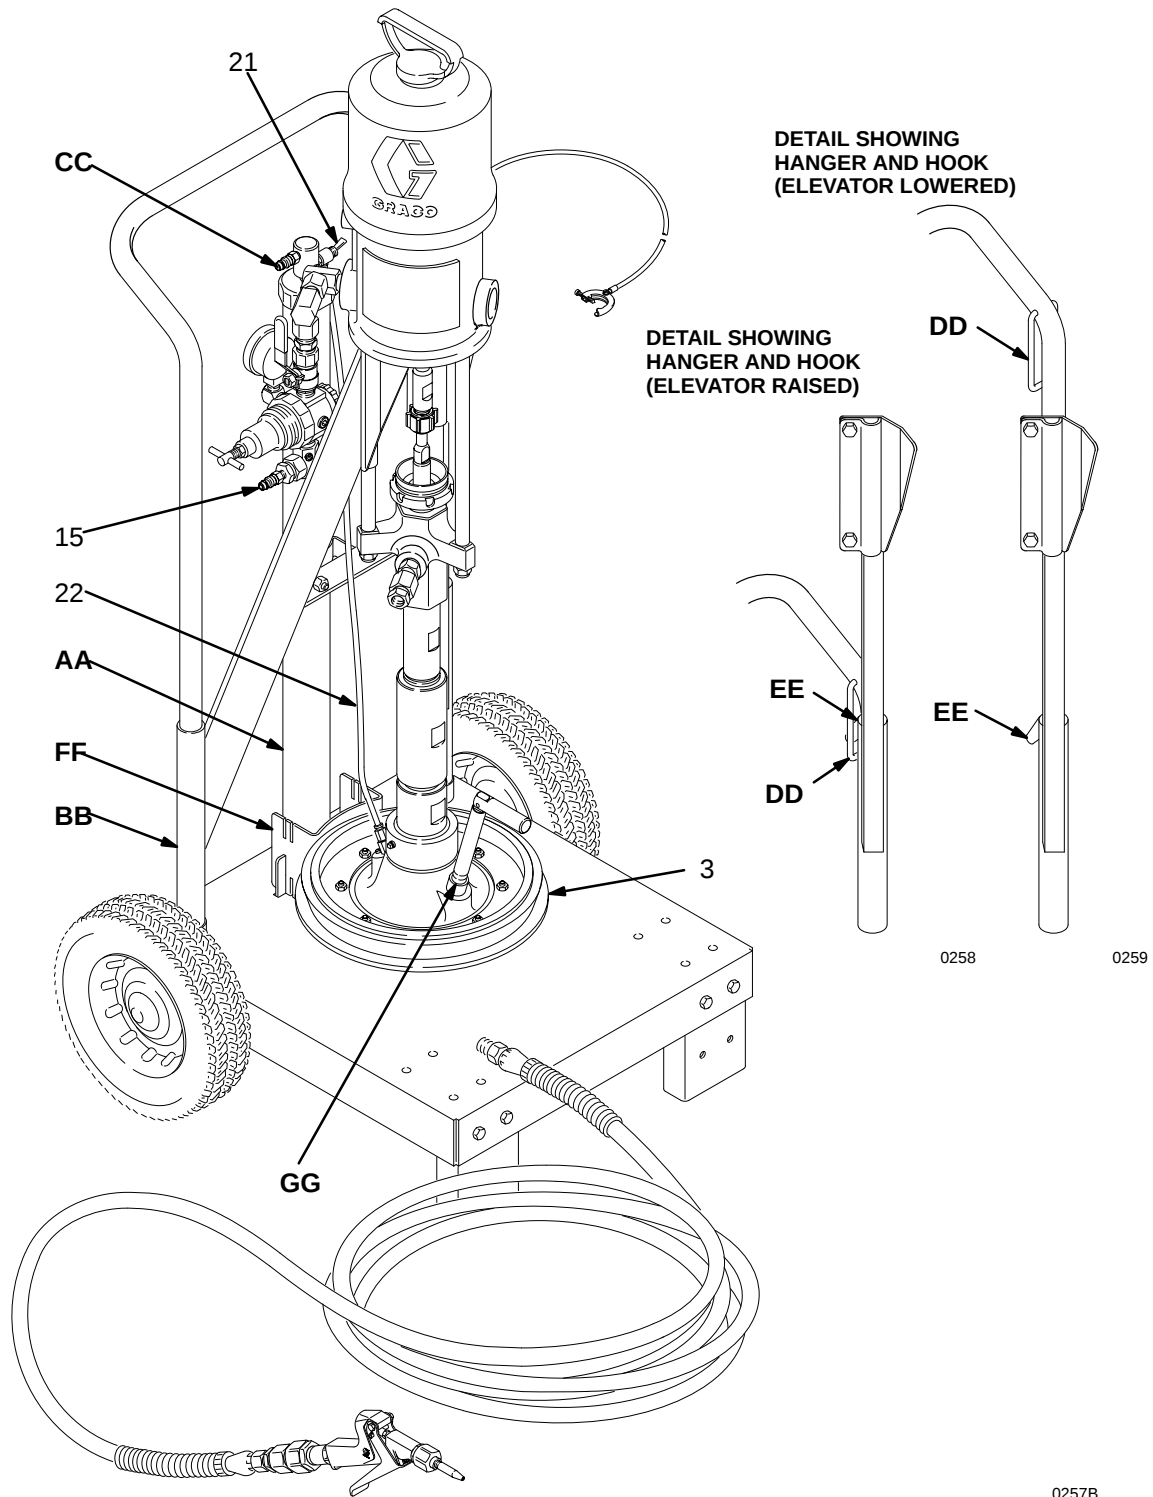

Fig. 3
The elevator tube (AA) and from slides (BB) move up and down when the elevator is in operation, and can pinch fingers or hands caught between them and the cart frame. Keep your hands away from the elevator tube, from slides, and the frame of the cart when the elevator is in operation. See Fig. 3.
1. Disconnect the female quick coupler from the pump air inlet fitting (15) and connect it to the air inlet fitting (CC) on the elevator. Turn on the main air. See Fig. 3.
2. Raise the elevator to its maximum height, so the hanger (DD) on the cart handle is below the hook (EE) on the elevator frame.
3. Place a 19 liter (5 gallon) pail of fluid on the base of the cart. Slide the pail back against the pail stop (FF). The pail stop is adjustable to four positions, to properly align the pail with the wiper plate (3).
1. Pull the hanger (DD) upward and hold it firmly against the handle of the cart. Disconnect the female quick coupler from the elevator air inlet fitting (CC) and connect it to the pump air inlet fitting (15). After a short delay, the weight of the pump will cause the elevator to move downward. Continue to hold the hanger (DD) against the cart handle until the hook (EE) on the frame is low enough to prevent it from engaging the hanger. See Fig. 3.
2. If necessary, push down on the top of the pump to help the wiper plate (3) enter the pail. When the wiper plate enters the pail, open the wiper plate vent (GG) and leave it open until fluid appears at the vent hole. Close the vent.
2. Set the air release toggle valve (21) to the down (open) position. The toggle valve directs air under the wiper plate, making it easier to pull the plate out of the pail. See Fig. 3.
3. Disconnect the female quick coupler from the pump air inlet fitting (15), and connect it to the elevator air inlet fitting (CC). After a short delay, the elevator will begin to raise the pump from the pail.
4. As the wiper plate (3) nears the top of the pail, the seal between the wiper and pail will decrease and the plate may not come completely out of the pail. The elevator will lift the pump and pail together. Allow the elevator to rise to its maximum height, so the hanger (DD) on the cart handle is below the hook (EE) on the elevator frame, then just pull the pail off the plate.
- NOTE:** If the plate is stuck at the bottom of the pail and does not come out at all, the elevator will pull the pail up along with the plate. If this happens, allow the elevator to rise to its full height, then open the wiper plate vent (GG). This will make it possible to pull the pail off the plate. Check for a blockage in the tube (22) near the wiper plate (3). Fluid may have dried in and around the wiper plate's air assist check valve. Refer to the separate wiper plate manual 308–049 for details and clean as necessary.